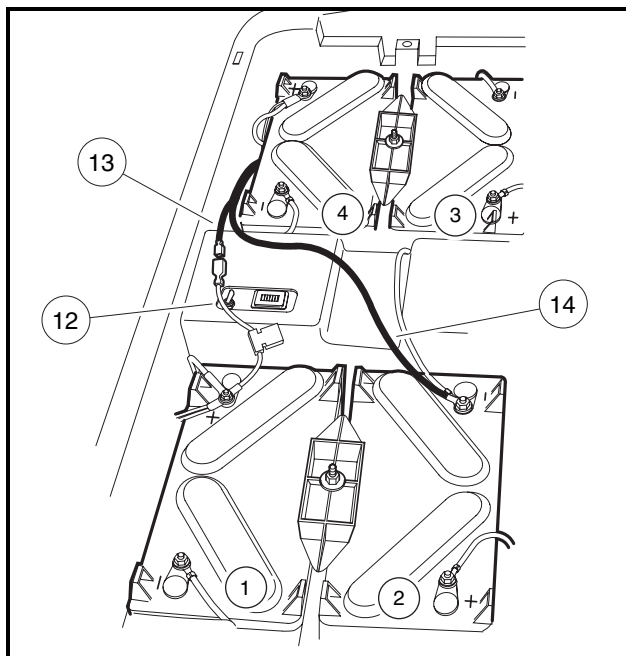

Figure 12 Power Wire Connections - Electric Vehicle
- 2.11. Connect the red wire with in-line fuse and male terminal (12) to the female terminal on the power wire (13) (**Figure 12**).
- 2.12. **Electric vehicle:** Attach the red wire to battery no. 1 positive (+) terminal. Attach the black (ground) wire (14) to battery no. 2 negative (-) terminal (**Figure 12**).